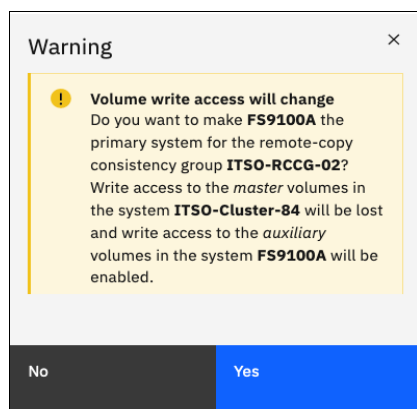

Figure 10-140 Switching direction of Consistency Groups changes the write access
- Because the master-auxiliary relationship direction is reversed, write access is disabled on the new auxiliary volume (former master volume), while it is enabled on the new master volume (former auxiliary volume). A warning message is displayed, as shown in Figure 10-140. Click **Yes**.